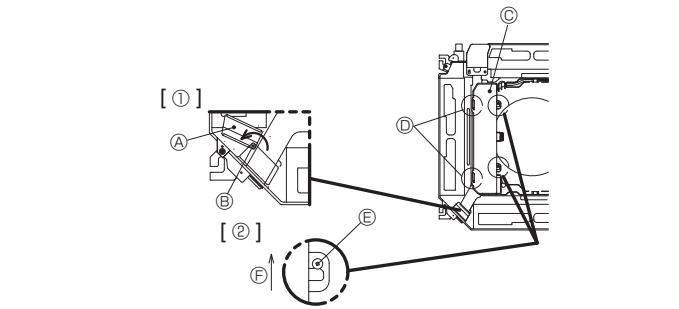

Fig. 5-4
1. Loosen the one screw securing the electrical wiring service panel at the cableentry (optional VALVE KIT lead wire), and then turn the service panel to the position shown in the diagram. [Fig. 5-4 ①]
2. Loosen the two screws securing the electrical box cover, then slide the electrical box cover. [Fig. 5-4 ②]